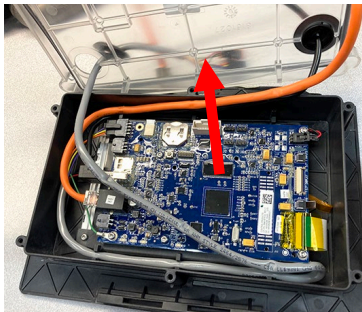

Figure 9
11. Carefully lift the rear cover off the controller (see Figure 9).